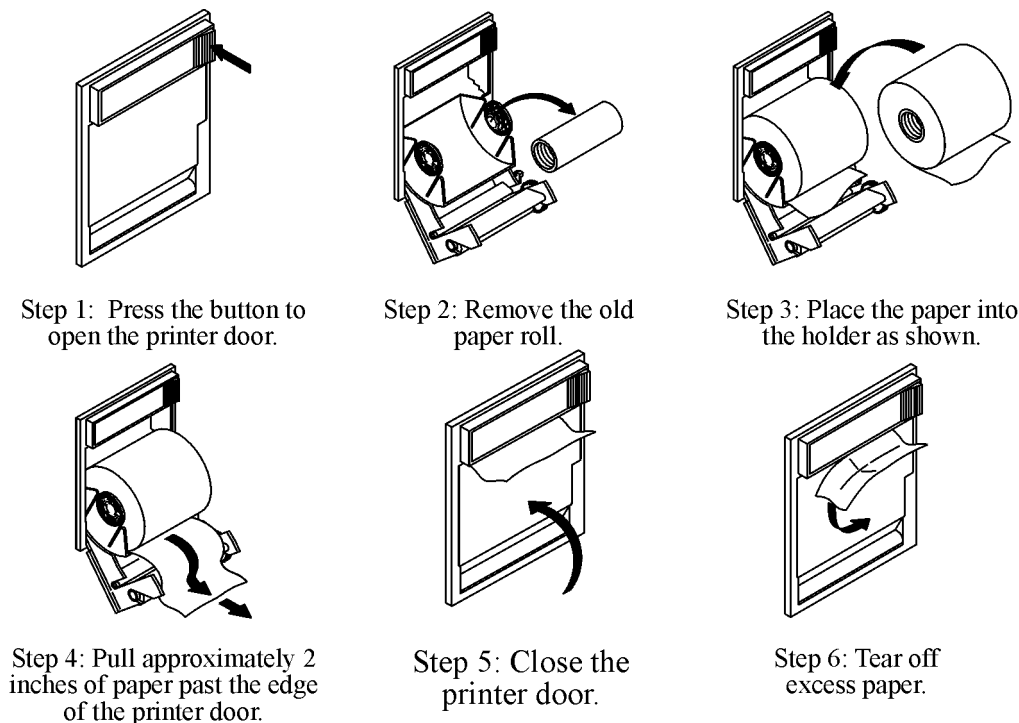

Figure 5-5. Loading the Printer Paper
5.4 Loading Printer Paper. Perform the procedure in Figure 5-5 to load the printer paper.